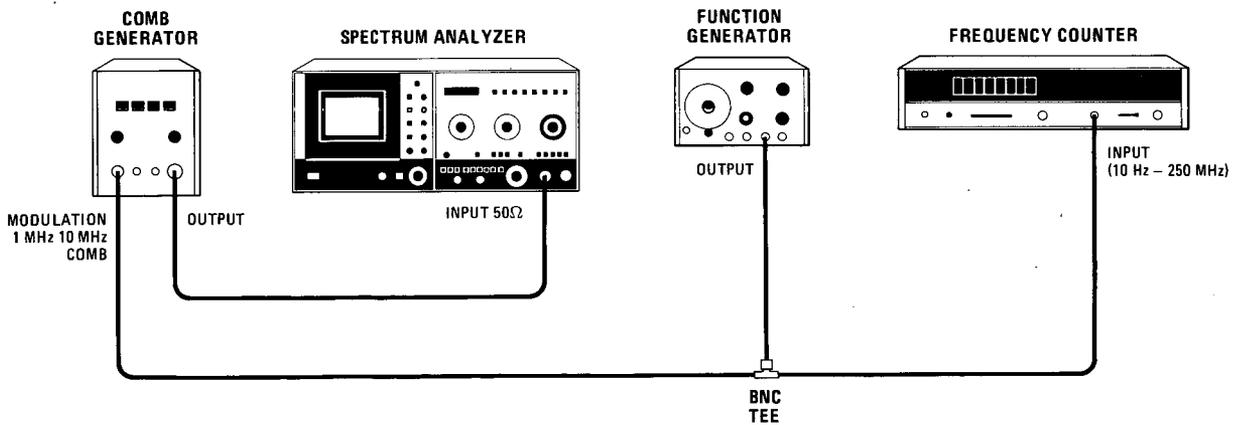

Figure 4-2. Span Width Accuracy Test Setup
- b. Connect equipment as shown in Configuration A of Figure 4-2.
- k. Connect equipment as shown in Configuration B of Figure 4-2 without connecting function generator. Set comb generator for 100 MHz comb output.